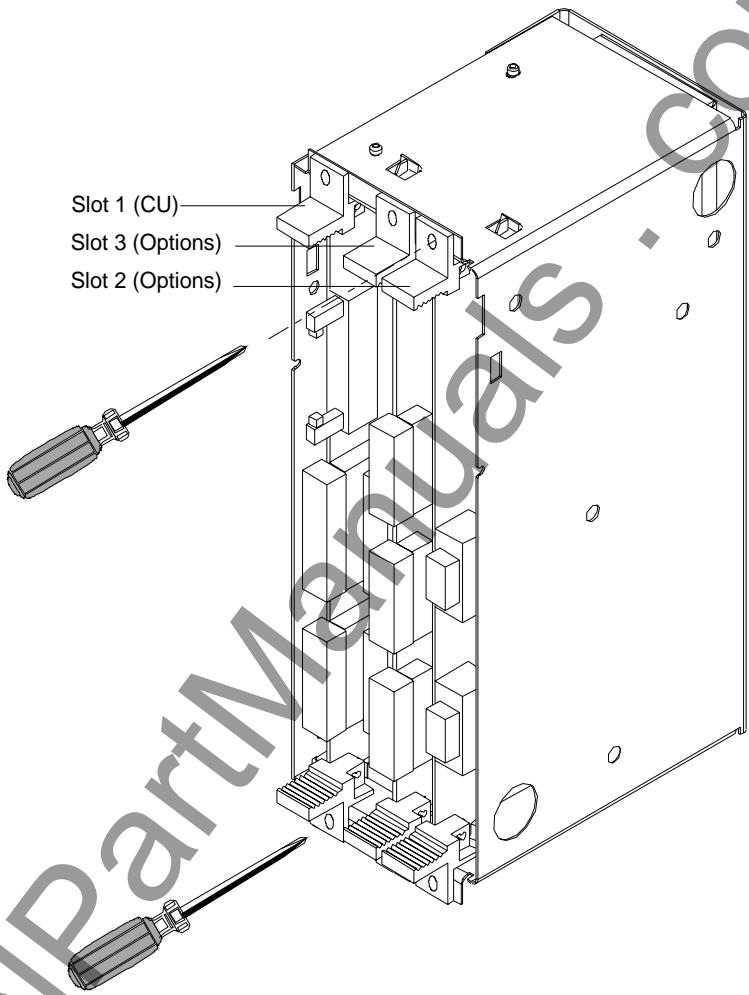

Fig. 5.4
- Remove both mounting bolts from the electronics box (Fig. 5.4)